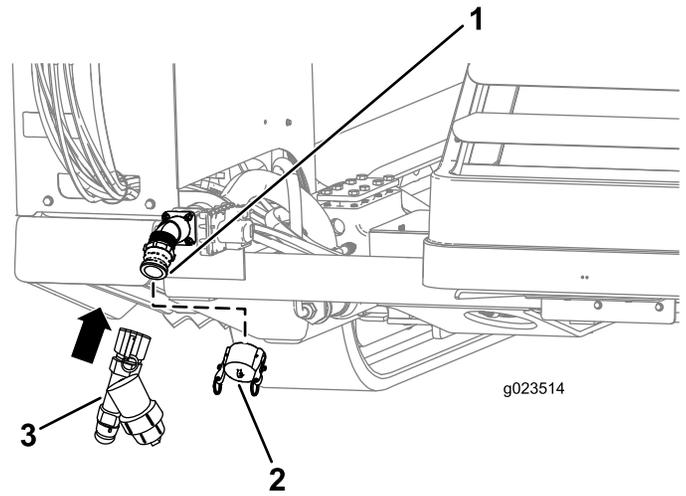

Figure 46
1. Remove the pump-inlet cap (Figure 46).
2. Align the Y-screen with the threads on the pump (Figure 46).